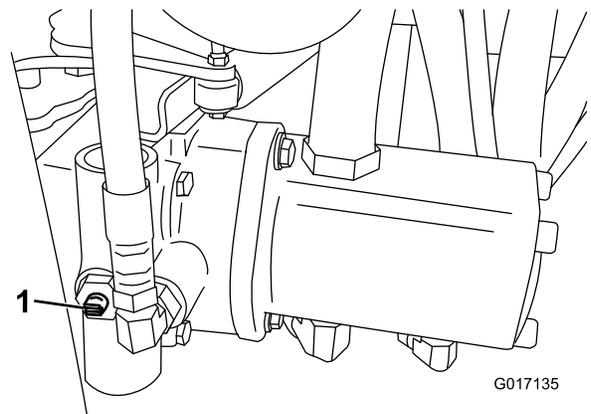

Figure 24
1. Locate the bypass valve on the pump and rotate it so that the slot is vertical (Figure 24).
2. Before starting the engine, close the bypass valve by rotating it so that the slot is horizontal (Figure 24). Do not start the engine when the valve is open.